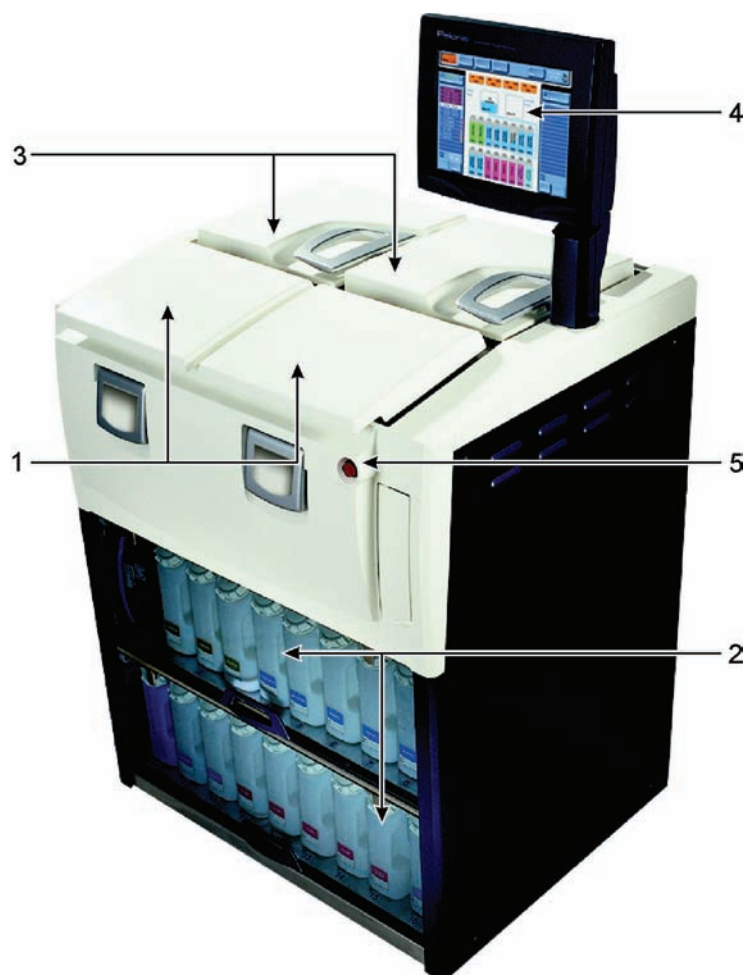

Figure 1: Peloris tissue processor hardware
- Press the power button to start the instrument (see item 5 in Figure 1).
- (ii) Wait for the touch-screen to go blank then press the power button to remove all power from the instrument (see item 5 in Figure 1).
- For emergency shutdown, press the power button immediately (see item 5 in Figure 1).